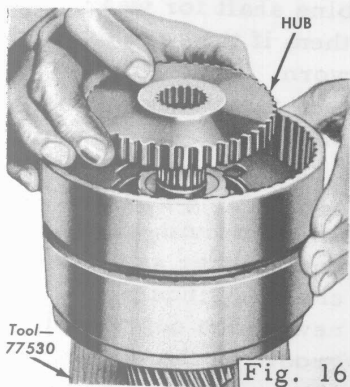

Fig. 16
- ☒ Install the clutch hub in the front clutch cylinder with the deep counterbore down. (Fig. 16). Install the thrust washer on the clutch hub.